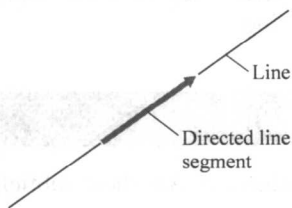
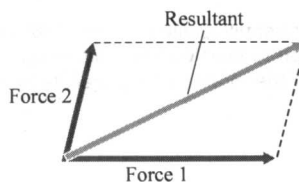

Figure 1.1 Directed line segment.
Figure 1.2 Force parallelogram.
The successful analysis of nonparallel forces was not accomplished until nearly 2000 years after the death of Archimedes, when the Flemish mathematician and inventor Simon Stevin (1548–1620) solved the inclined plane problem (which involves nonparallel forces). Stevin also used directed line segments to represent forces and included an arrowhead on a line segment to indicate the sense of the force along the line (Fig. 1.1). He showed how to add two forces to obtain their *resultant* by constructing a force parallelogram with the forces (arrows) as the sides. The diagonal of the parallelogram then represents the sum, or resultant, of the two forces (Fig. 1.2; see also Sec. 2.3). Quantities that add like forces are called *vectors*.① The French scientist René Descartes (1596–1650) developed the idea of resolving vectors into projections parallel to *coordinate axes*.② Complementing Stevin's parallelogram law, this idea greatly facilitates computations in both two and three dimensions